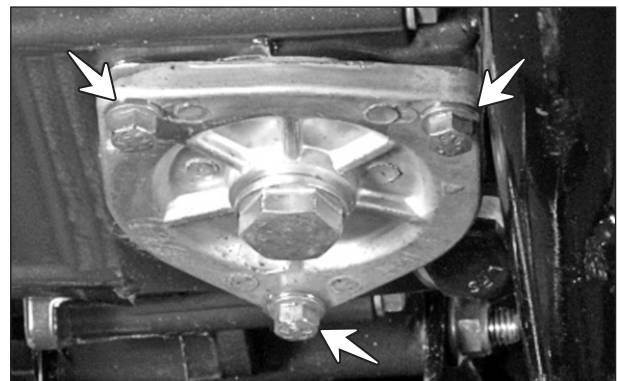

Fig. 2.31
- Loosen and remove the hexagonal flange head bolts (M6x20 - 3 nos.). (Fig. 2.31)